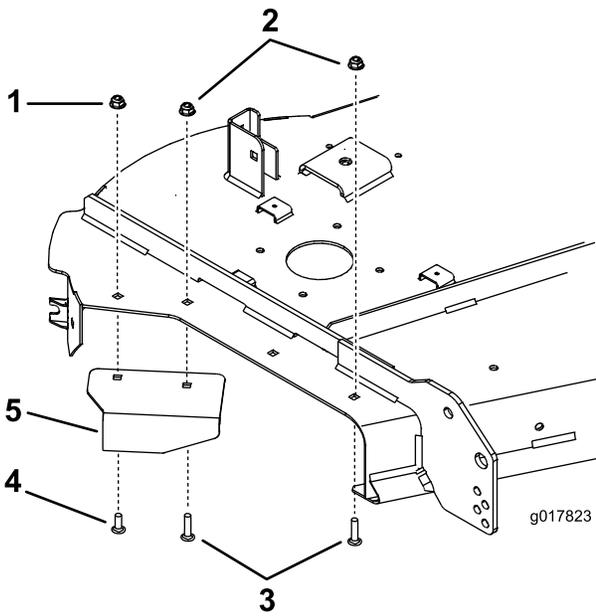

Figure 8
Note: When installing the existing baffle, ensure the correct holes are used for each bolt (Figure 8).
- Install the existing baffle with a carriage bolt (5/16 x 1 inch) and nut (5/16 inch) from the previously removed baffle (Figure 8).
- Use a new bolt (5/16 x 1-3/8 inches) and flange nut (5/16 inch) to secure the inside of the baffle (Figure 8).
5. Install a carriage bolt and flange nut into the front hole shown in Figure 8.